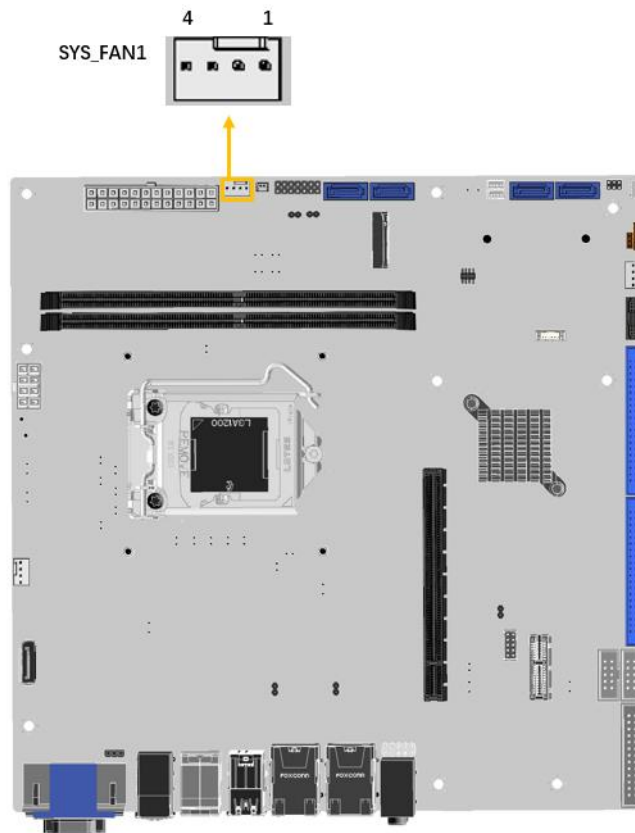

Figure 3-13: System Fan Connector Locations
- CN Location:** See **Figure 3-13**